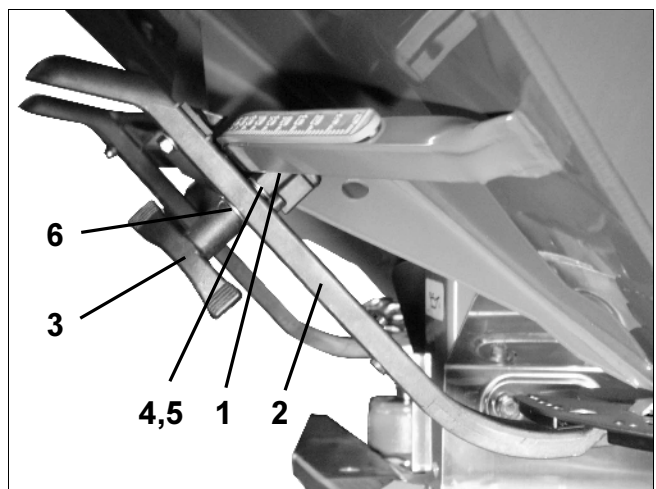

Fig. 105
- Install the clamping device (Fig. 105/1) for the setting lever (Fig. 105/2) as follows:
- Remove thumb nut (Fig. 105/3) .
- Remove the bolt and exchange the position of the two washers (Fig. 105/4) from the rear (Fig. 105/5) to the front (Fig. 105/6).